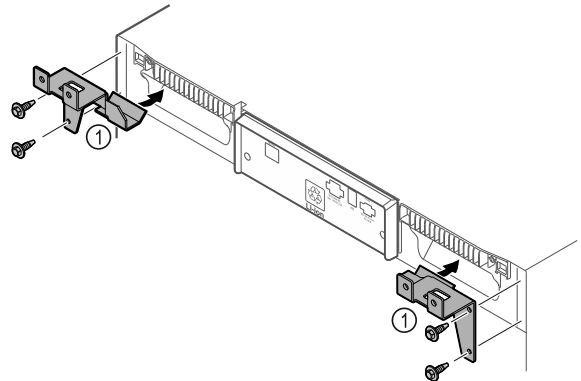

Fig. 66
- ▶ Fit the retaining parts Fig. 66 (1) to the device with self-tapping screws.